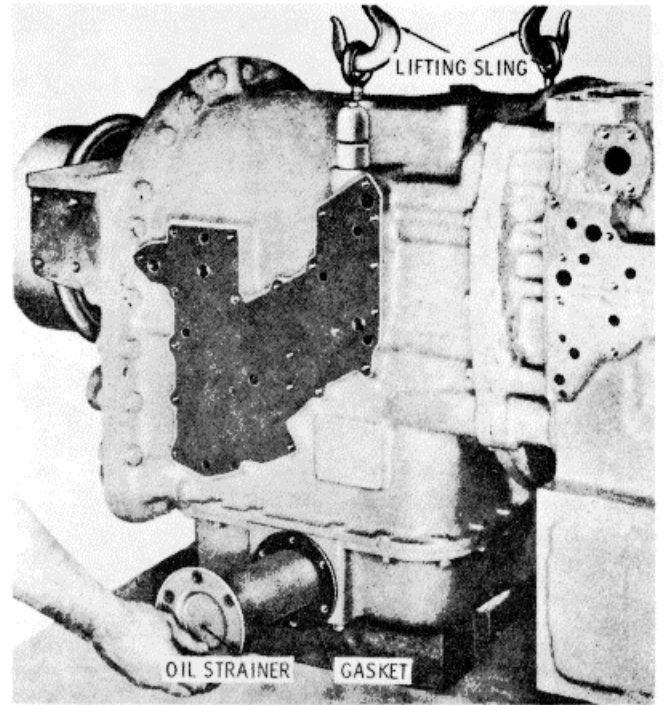

Figure 15-41. Removing Oil Strainer
11. Attach a two-strand lifting sling to the top of the transmission and raise it slightly (Figure 15-41). Remove six bolts 7 (A, Foldout 10) and lockwashers 8 from oil strainer 6. Remove strainer 6 and gasket 5.